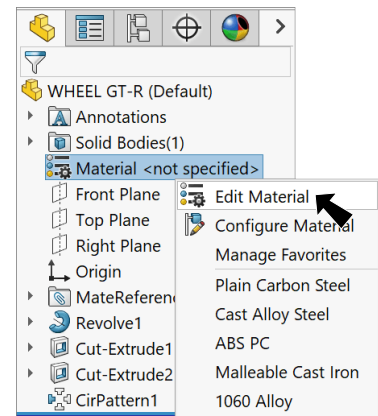

Fig. 23
Step 1. Right click **Material** in the Feature Manager and click **Edit Material**, Fig. 23.